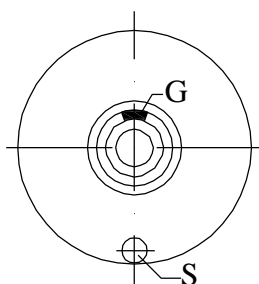

Fig.4
- Apply the first balancing weight "G" opposite to this point "S" and screw it in. It cannot be moved again (Fig.4)